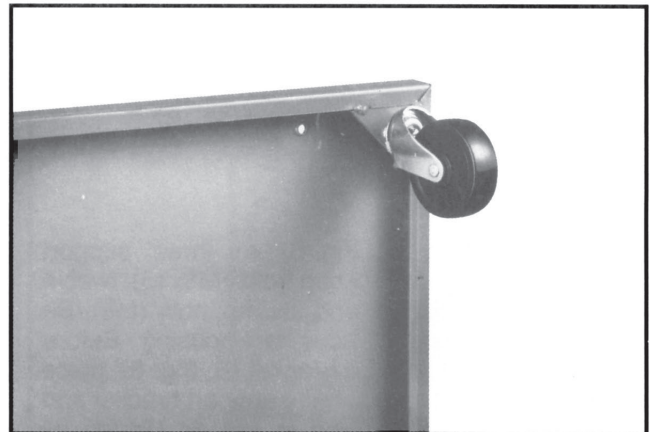

Fig. 1
1. Install four rollers to under side as pictured in Fig. 1.